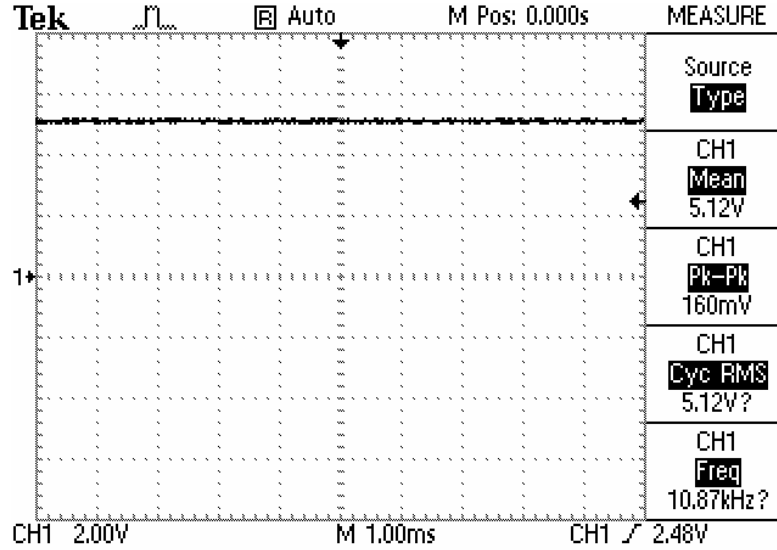

Figure 5: Oscilloscope Display of +5V Power Supply
11. [] Press the next button down to choose CH1/Pk-Pk for the other field. See Figure 5.
15. The oscilloscope should display a straight horizontal line at about 5V. See Figure 5.